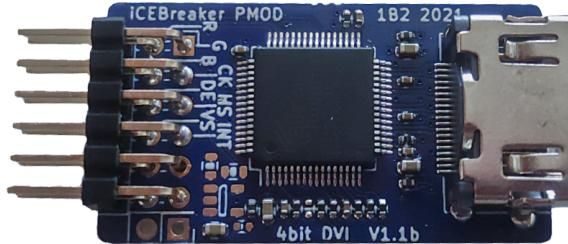

Figure 9 - PMod - DVI module
- A PMOD to DVI module for displaying the image on a screen via HDMI, see figure Figure 9.